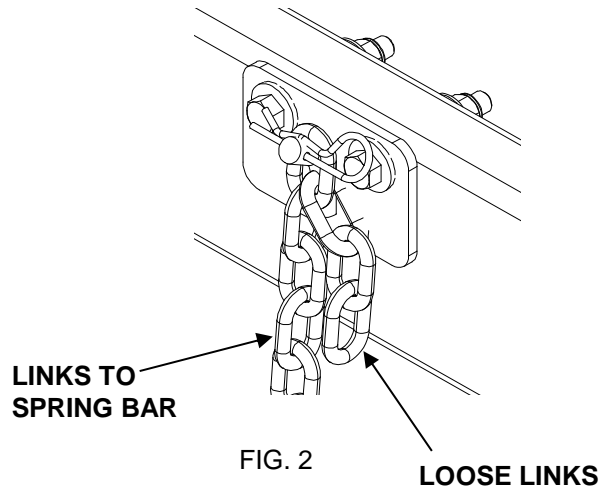

FIG. 2
4. SLIP THE CLOSEST LINK OVER THE CHAIN HANGER HOOK. **NOTE:** MAKE SURE LOOSE LINKS ARE AT BOTTOM OF LINK THAT IS HOOKED ON PIN. (SEE FIG. 2) (IF THERE ARE LESS THAN 5 LINKS BETWEEN HOOK AND U-BOLT ADJUST BALLMOUNT ANGLE REARWARD, AND REPEAT PROCEDURE). PLACE SPRING CLIP IN TO CHAIN HANGER HOOK HOLE.